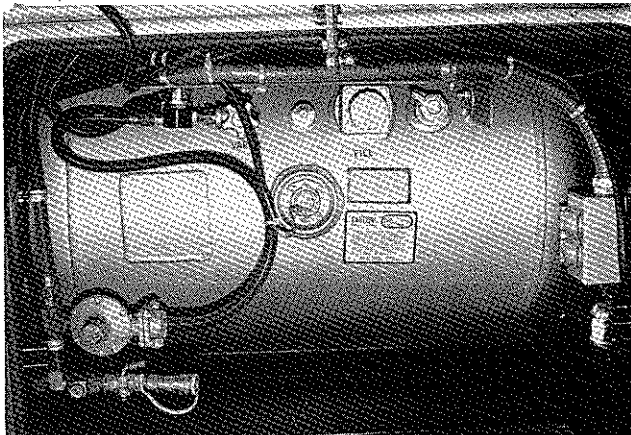

Figure 6-1. LPG Tank Compartment
The LPG supply tank is located in a curbside compartment as shown in figure 6-1. LPG system controls include a main gas service valve, solenoid shut-off valve, two stage pressure regulator, filler connection with Auto Stop (80%) fill valve, 20% vapor (stop filling when liquid appears) valve, and the pressure relief valve.
**When coach is to be stored in a confined area, turn off the LPG at the main tank shutoff valve (figure 6-1). With the NEWTEC LPG Leak detector this may now be accomplished by turning the control unit "OFF".**
To operate any LPG appliance, the main gas (Service) valve, figure 6-1, must be **Open**. At each furnace there is a shut-off valve and solenoid valve that must be opened prior to use. When first used, or after a refill, there may be some air in the gas lines which will escape when you open a range burner or similar LP gas valve. The air may extinguish your match or igniter the first time or two, before you get ignition. Remember, too, that when you close the tank's Ser-